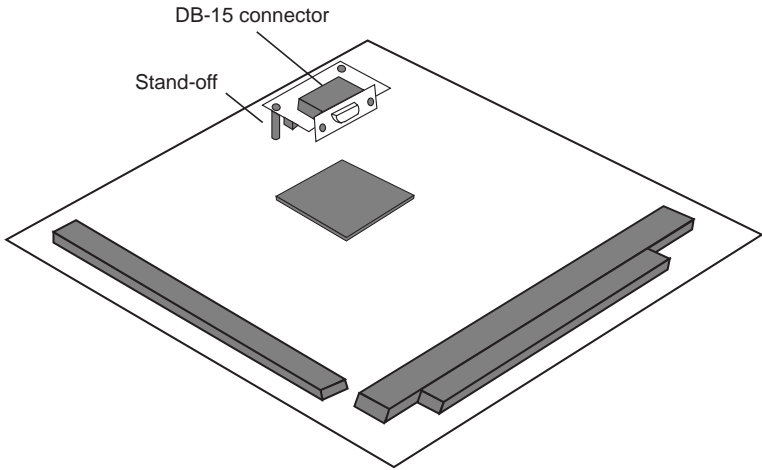

Figure 3—2430 with CRT Adapter Assembly
1. The DB-15 connector supports an analog VGA color or monochrome monitor. Install the DB-15 connector at J1 and attach it securely with the stand-offs provided. (See Figure 3.) Plug the cable supplied with your monitor directly into the DB-15 connector.